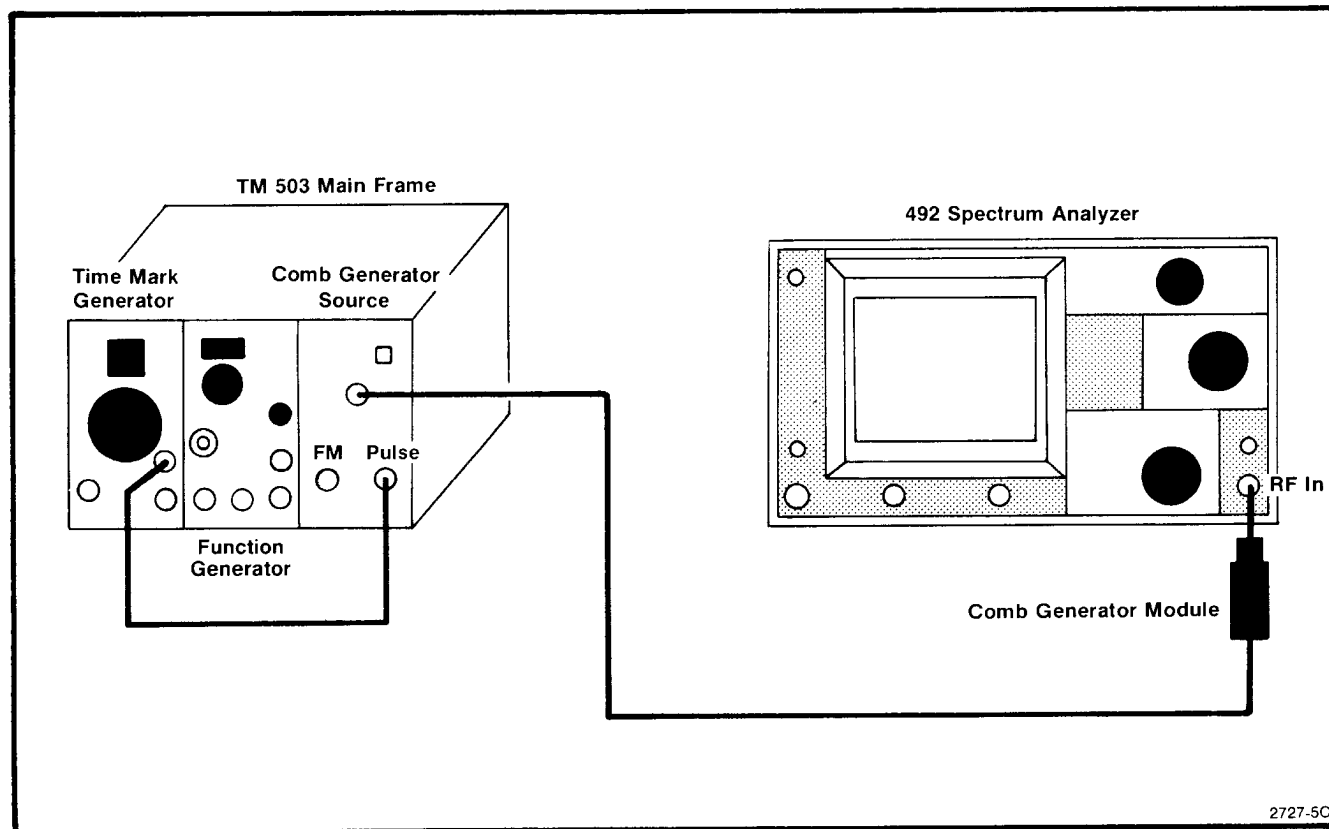

Fig. 3-8. Test equipment setup for checking span and timing accuracy.
d. Change the MIN RF ATTEN to 10 dB. Remove the CAL OUT signal to the RF INPUT and apply the microwave comb generator, as shown in Fig. 3-8. Change to band 4 (5.4 to 18 GHz) and switch the FREQ SPAN/DIV to 500 MHz. If the 492/492P has Option 01, adjust the PEAKING control for maximum marker amplitude. It may be necessary to adjust the FREQUENCY for best marker definition.